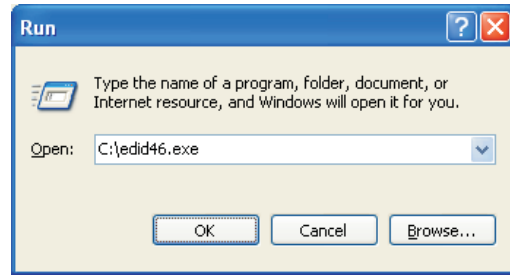

Fig. 6
- 3. At the submenu, type the letter of your computer's hard disk drive followed by :EDID46 (for example, C:\EDID46, as shown in Fig. 6).